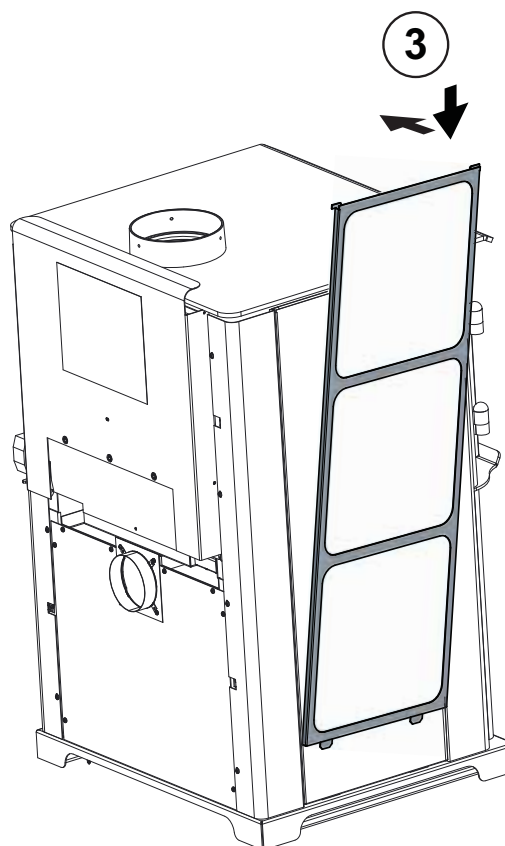

Figure 25.4
4. Reattach tile frame (Figure 25.4).